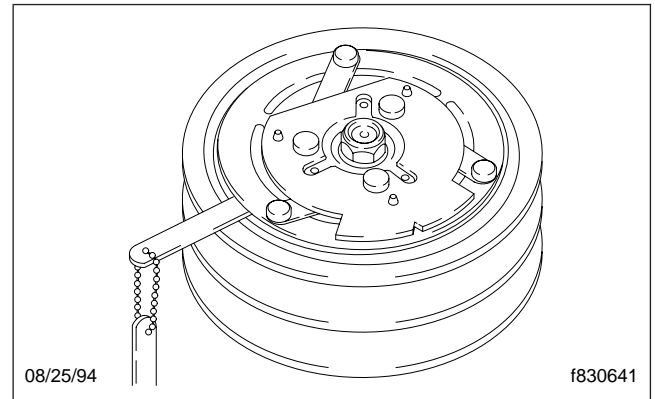

Fig. 1, Drive Plate Clearance Inspection (Sanden compressor shown)
4. On a Sanden refrigerant compressor, use a feeler gauge to check the drive plate clutch clearance. It should be 0.016 to 0.03 inch (0.4 to 0.8 mm). See **Fig. 1**. If the drive plate clutch requires adjustment, see **Group 83** of the *Recreational Vehicle Chassis Workshop Manual*, or take the vehicle to an authorized Freightliner dealer.